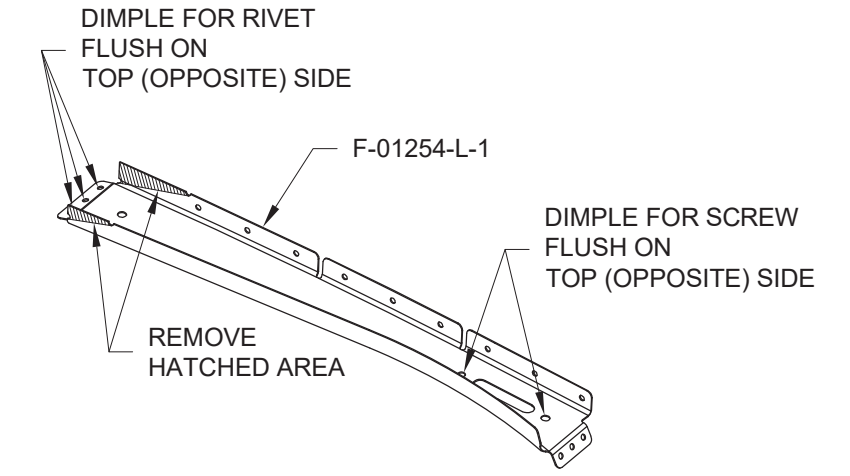

FIGURE 4: TRIMMING THE F-01254-L-1 & -R-1
Step 8: Remove the hatched areas shown in Figure 4 from the flanges of both the F-01254-L-1 & -R-1.
Step 9: Drill #17, deburr, and dimple both holes indicated in Figure 4 for the head of a #8 screw.